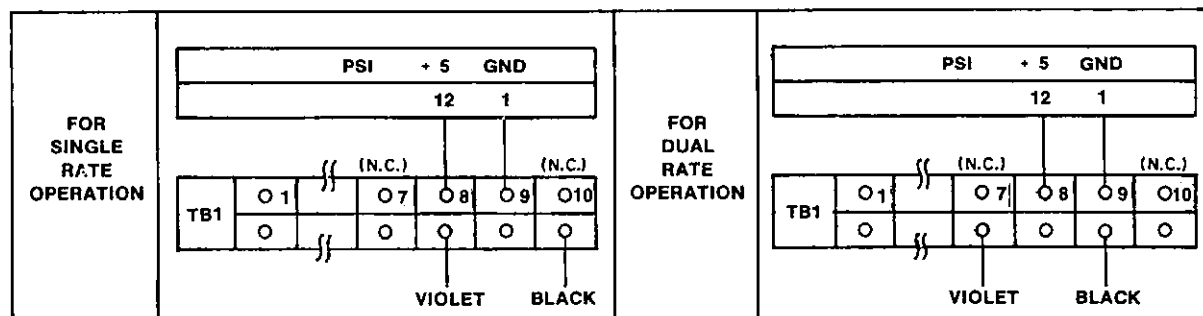

Figure 2.5. Pictorial of EPA Chassis Programming
2.5.1.2 Chassis programming. Program the EPA chassis according to Figure 2.5.